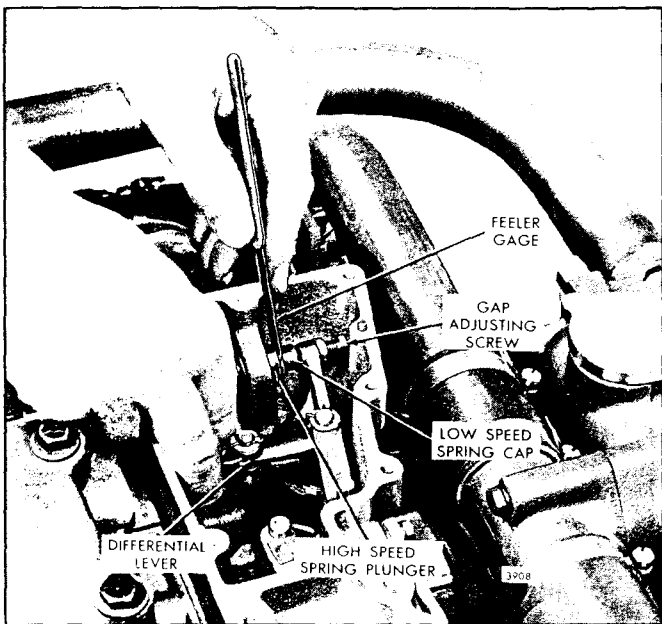

Fig. 9 - Checking Governor Gap
6. Check the gap between the low speed spring cap and the high speed spring plunger with a $.0015$ " feeler gage. If the gap setting is incorrect, reset the gap adjusting screw (Fig. 9).